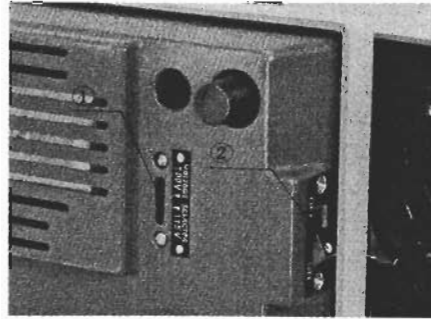

Fig. 5
- 1) Ascertain that the voltage selector switch ① is set to conform with the local mains voltage. (Fig. 5) If the switch is not correctly set, adjust it by means of the Allen wrench provided or a screwdriver.
- 3) Actuate the main switch ②. (Fig. 5)